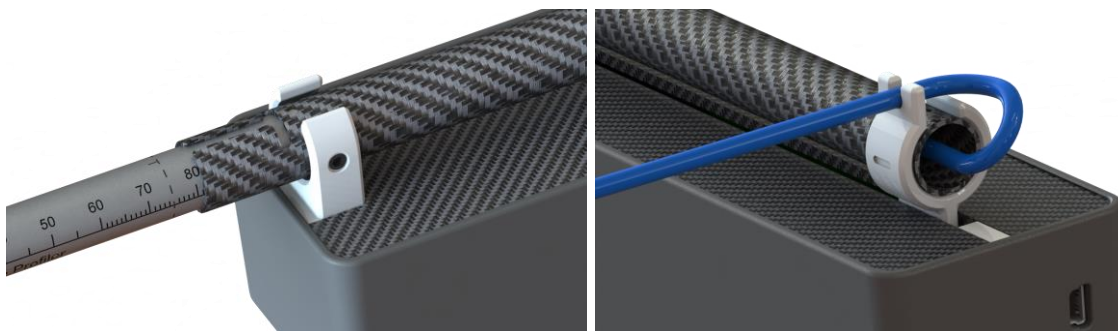

Figure 19. Detector holder pipe end configuration
Note the cable routing at the back end in Figure 19.
5. Push the pipe through the moving part of the LoniMover, note the end position of the pipe according to Figure 19.
6. Make sure the cable is still connected to the CTDP and route the cable through the cable holder according to Figure 19.
6. Route the cable through the cable holder according to Figure 19.